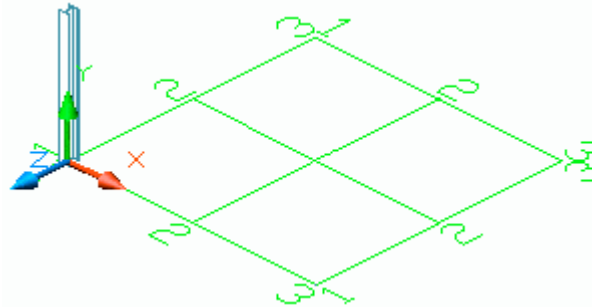

Figure 70: Beam HEA 400
- Click a suitable UCS (see Figure 70).